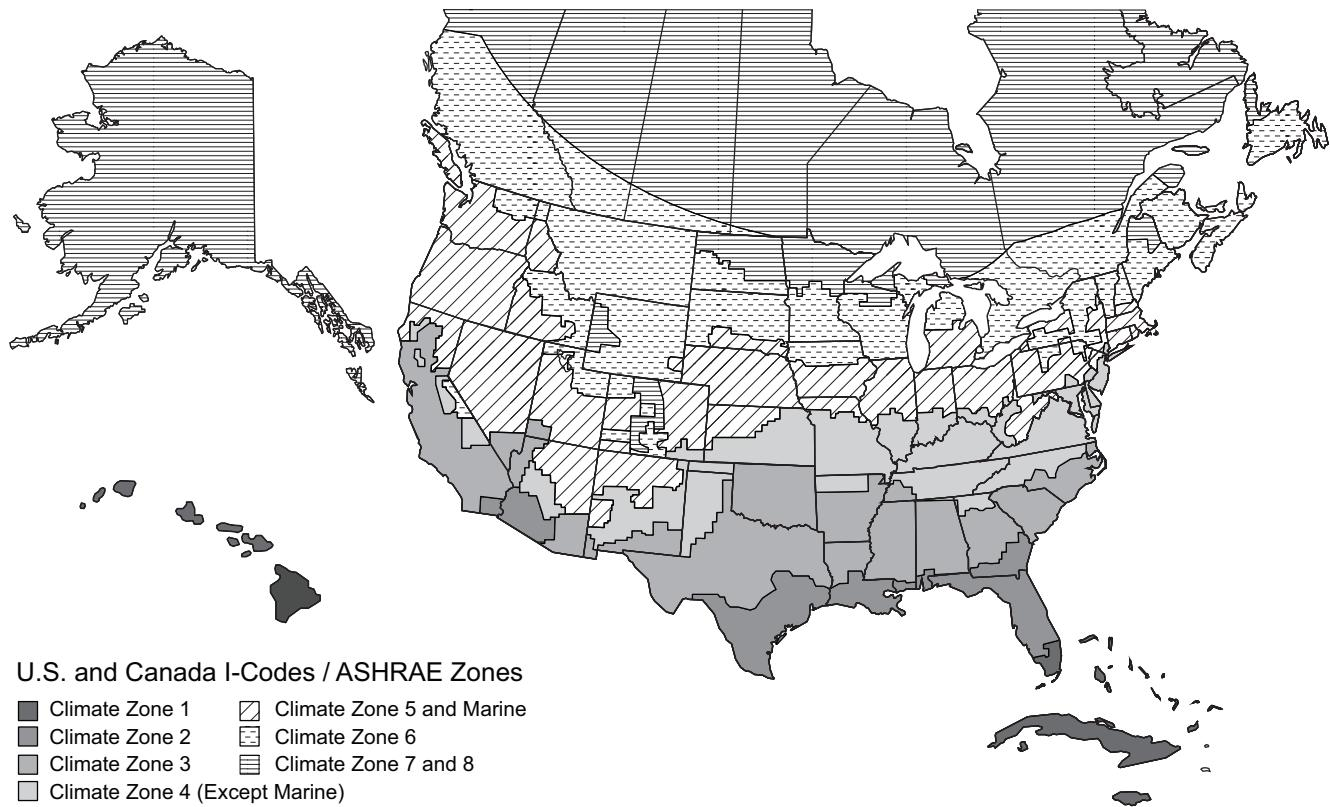

Fig. 88 — U.S. and Canada Climate Zones
- See Fig. 88 for map of U.S. and Canada climate zones.